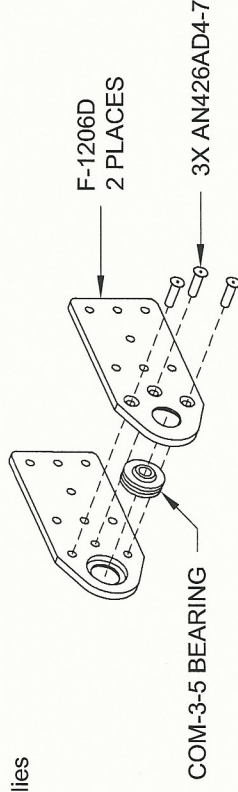

FIGURE 6: BEARING BRACKET ASSEMBLY
Step 14: Rivet together two Bearing Bracket Assemblies using F-1206D Bearing Brackets and the hardware called out in Figure 6. Machine countersink one side of both Bearing Bracket Assemblies for the flush rivets shown.